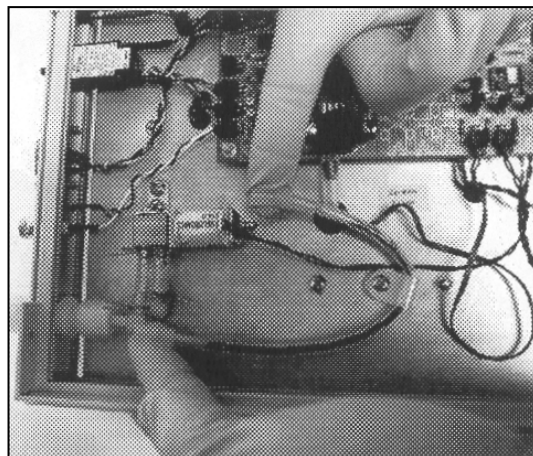

Figure 4-4. Remove Ozone Scrubber.
- Remove the ozone scrubber (top side of mounting plate) by pulling the silicone tubing connectors loose from the nylon tee and solenoid valve (see Figure 4-4).